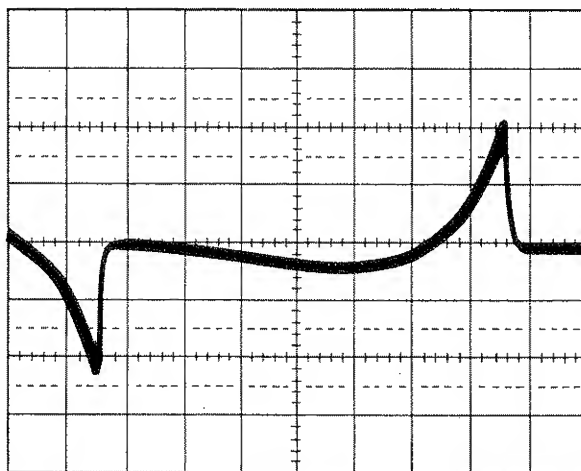

Figure 4-18. Pulse Modulation Video Feedthrough Waveform.
- Adjust the oscilloscope channel A vertical sensitivity and vertical position to view the video feedthrough signal similar to Figure 4-18.